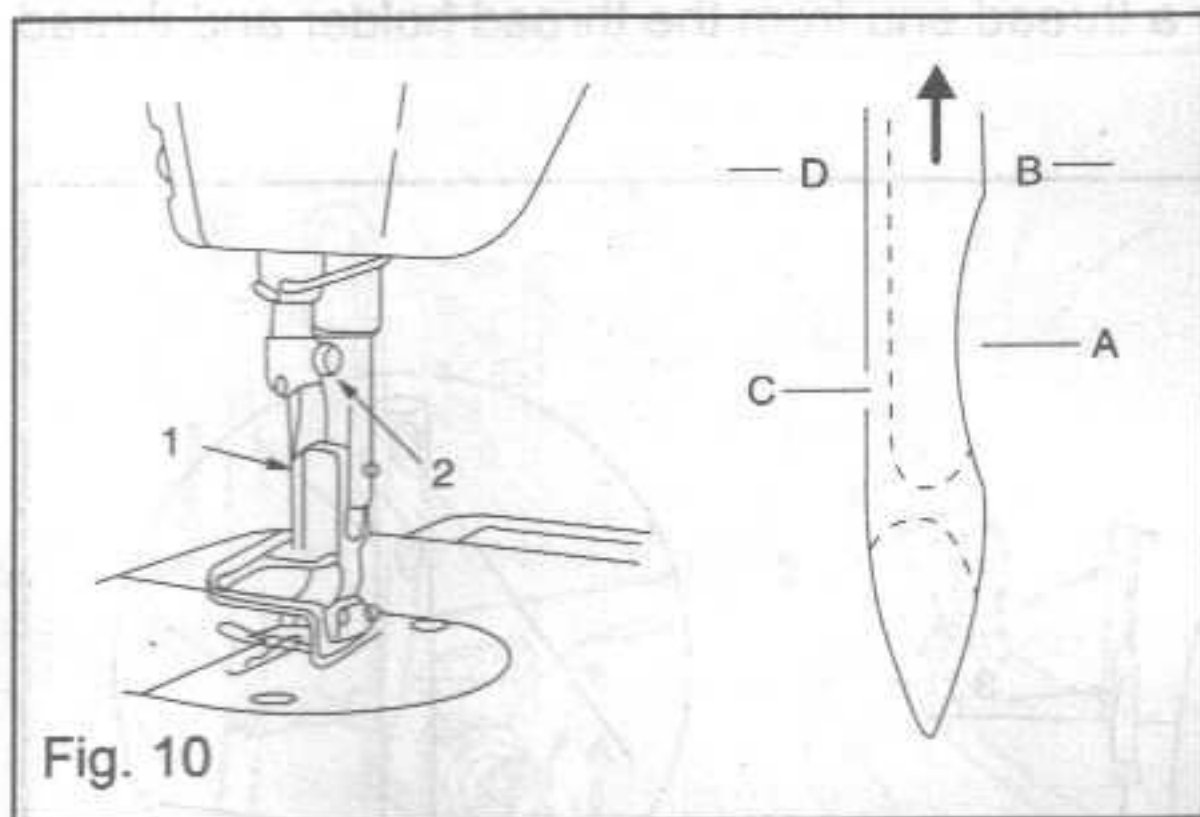

Fig. 10
- 1) Turn stitch length dial ① in the direction of the arrow, and align the desired number to marker dot A on the machine arm.
- 3) When you want to decrease the stitch length, turn stitch length dial ① while pressing feed lever ② in the direction of the arrow.
4. ATTACHING THE NEEDLE (Fig.10)